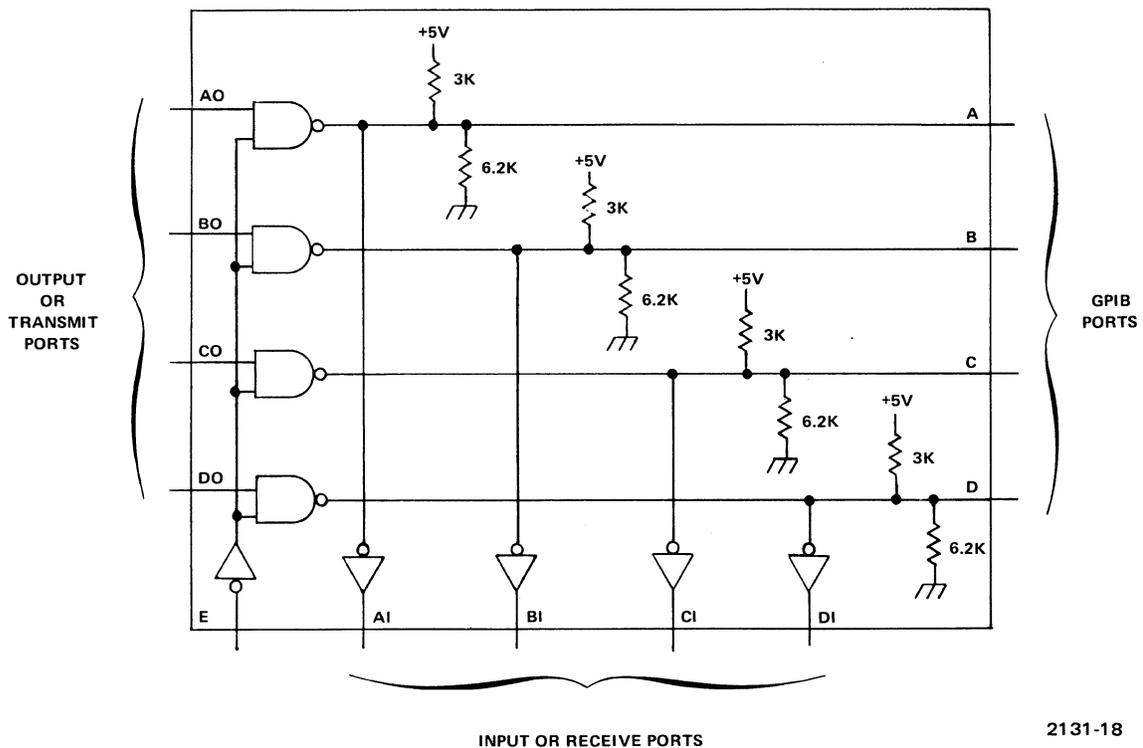

Fig. 5-3. GPIB Transceiver.
The Transfer Bus Transceiver (Schematic 1-2) provides interfacing to the three GPIB transfer bus lines DAV, NRFD and NDAC, and to one of the management bus lines, EOI. Its internal schematic is illustrated in Fig. 5-3. Each input or receive port (such as AI) at all times follows the signal presented to the corresponding GPIB port (A). An output or transmit port (such as AO) drives the GPIB line connected to its GPIB port with its open-collector driver only if the transceiver is enabled with a low at its enable input. The GPIB ports are active-low to conform with the GPIB standard, while the receive ports and transmit ports are active-high.